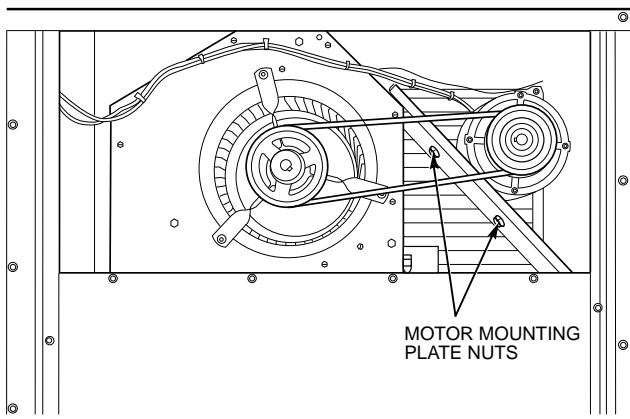

Fig. 34 — Typical Belt-Drive Motor Mounting for Sizes 008,009
2. Loosen belt by loosening fan motor mounting plate nuts (see Fig. 34 and 35).
To adjust belt tension (see Fig. 34 and 35):
2. *Units 008,009* — Slide motor mounting plate away from fan scroll for proper belt tension ($\frac{1}{2}$ -in. deflection with one finger) and tighten mounting nuts (see Fig. 34).